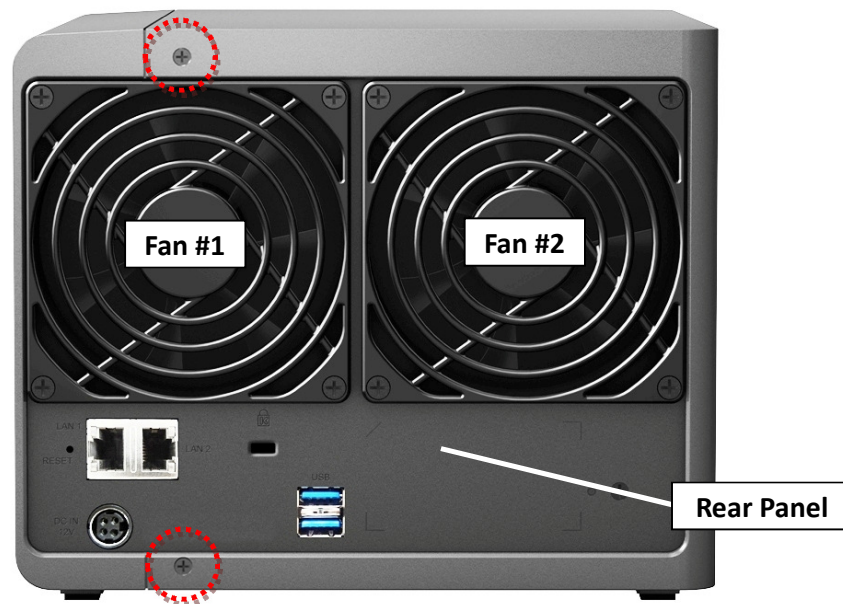

Fig. 3
2.1.3 Release the two (2) screws on the rear panel (Marked by the red circles). (Fig. 3)